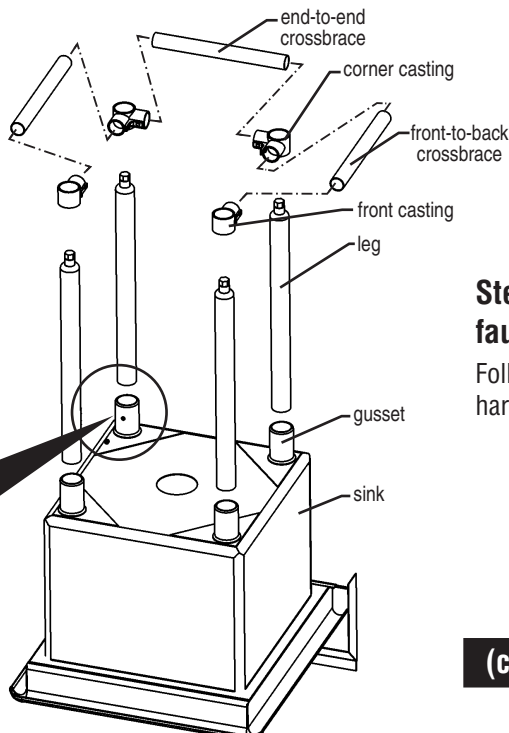

figure 1
- Place sink upside down (see *figure 1*).
- Assemble all crossbraces, front castings and corner castings as shown (*figure 1*). Using allen wrench, secure crossbraces into castings—1 set screw per front casting, 2 set screws per corner casting.